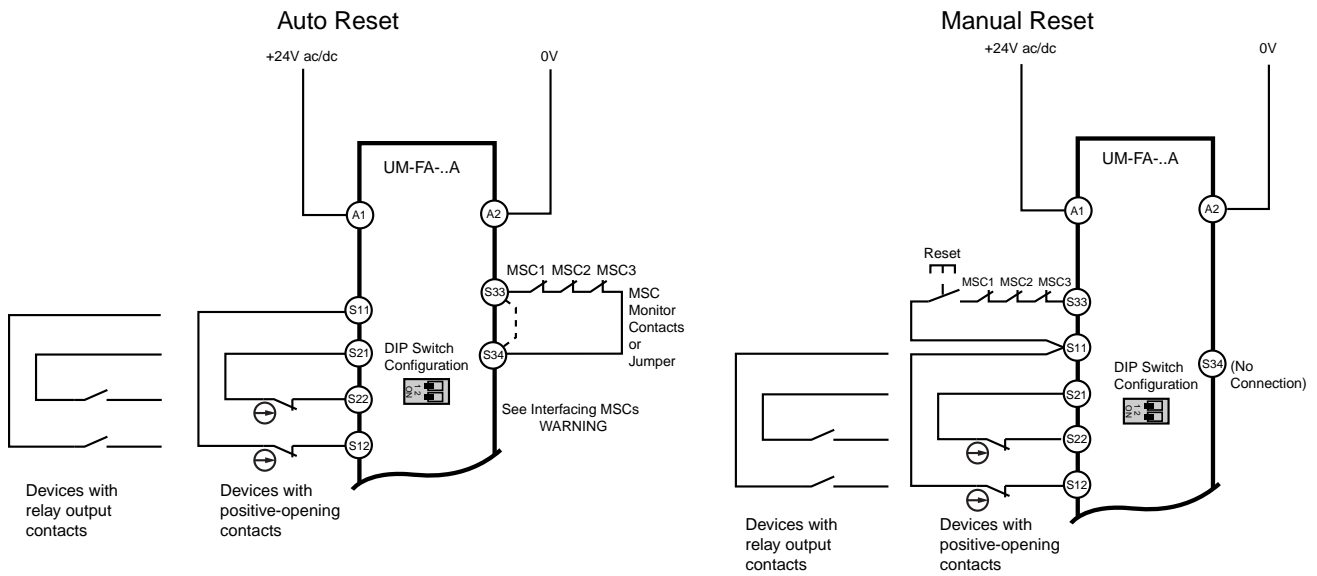
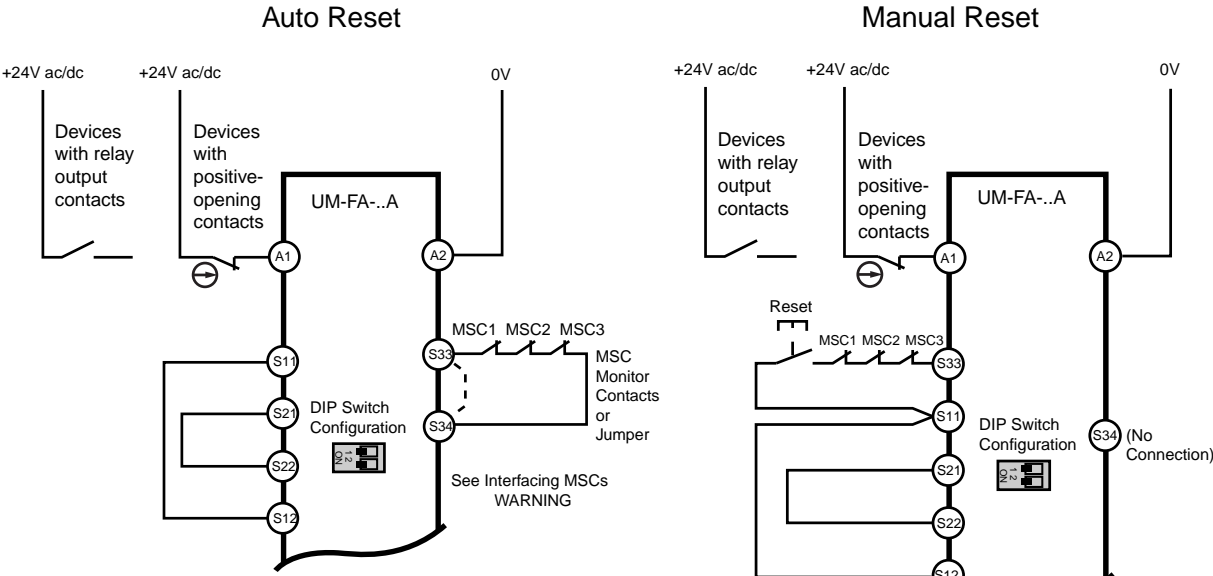

Figure 4: Dual-channel hookup configuration, devices with hard contacts
Figure 6: Single-channel hookup configuration, devices with hard contacts
The **UM-FA-..A** Universal Safety Module (or "Safety Module" or "Module" in this document) is used to increase the control reliability of a circuit. As shown in Figures 4, 5, 6, and 7, the Safety Module is designed to monitor a 1-channel or 2-channel safety switch (e.g., E-stop or safety gate switch) or a 1-channel or 2-channel PNP output from devices such as a sensor or a safety laser scanner. (A 2-channel E-stop switch has two electrically isolated contacts.)
To configure the Module for dual-channel hookup to monitor a device with redundant hard contacts (such as an emergency-stop button), **set both the DIP switches to the "ON" position**. This setting is for dual-channel hookup using terminals S11-S12 and S21-S22 as described in Figure 4, or when the dual-channel input is not used (i.e., is jumpered) in single-channel hookup configuration as described in Figures 6 and 7.
The **dual-channel hookup configuration** is able to detect certain failures and faults, such as short circuits, that could result in a loss of the safety function. Once such a failure or fault is detected, the Safety Module will turn OFF (open) its safety outputs until the problem is fixed. This circuit (Figure 4) can meet ISO 13849-1 Category 2, 3, or 4 requirements, depending on the safety rating and the installation of the safety input device. This circuit can detect a short circuit between channels or to another source of power, at a minimum, when the device is actuated.
The **single-channel hookup configuration** can not detect short circuits to secondary sources of +24V dc or detect the loss of the switching function of the safety input device (i.e., it is not redundant) and thus this circuit (Figures 6 and 7) typically can meet only ISO 13849-1 Category 2.
The reset circuit switch can be any mechanical switch, such as a normally open momentary switch, or a two-position key switch. The reset switch must be capable of reliably switching 12V dc at 10 to 20 milliamps. As shown in Figures 4, 5, 6, and 7, the reset switch connects between terminals S11 and S33 of the Safety Module.
The Safety Module may be used also with automatic reset. If no MSC-monitor contacts are monitored, a jumper must be installed between terminals S33 and S34 (see Figures 4, 5, 6, and 7). The Safety Module will reset (and the outputs energize) as soon as the inputs return to an ON (or "closed-contact") state.
To satisfy the requirements of Control Reliability (OSHA and ANSI) Category 3 and 4 of ISO 13849-1 (EN 954-1), the master stop control elements (MSCs) must each offer a normally closed, forced-guided (mechanically linked) monitor contact. Connect one normally closed monitor contact from each master stop control element in series to S33-S34 in Auto Reset mode and to S11-S33 in Manual Reset mode (see Figures 4, 5, 6, and 7).
In operation, if one of the switching contacts of either MSC fails in the energized condition, the associated monitor contact will remain open. Therefore, it will not be possible to reset the Safety Module. If no MSC-monitor contacts are monitored, a jumper must be installed as shown on Figures 4, 5, 6, and 7. **It is the user's responsibility to ensure that any single failure will not result in a hazardous condition and will prevent a successive machine cycle.**
3. Apply power to the Safety Module at terminals A1 and A2 (see Figures 4, 5, 6, and 7). Verify that only the Input Power indicator (Figure 1) is ON. If either input channel 1 (K1) or input channel 2 (K2) indicators are ON at this point, disconnect the input power and check all wiring. Return to step 2 after the cause of the problem has been corrected.